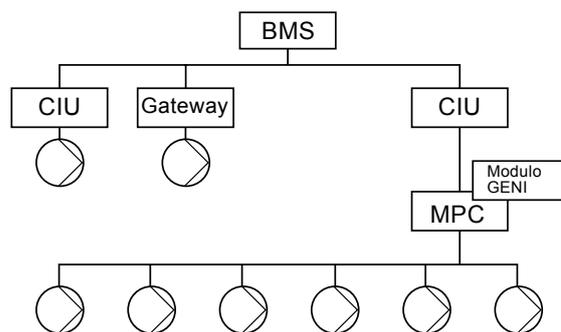

Fig. 15 UPE Series 2000 FZ in sistemi BMS
- UPE Serie 2000 FZ. Vedi fig. 15.